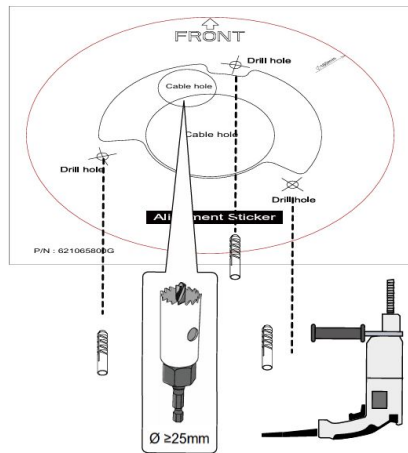

Figure 1-1
Step 1 Use the included position map and drill the appropriate mounting holes and cable exit. Keep in mind the orientation of the camera's base plate. See Figure 1-1